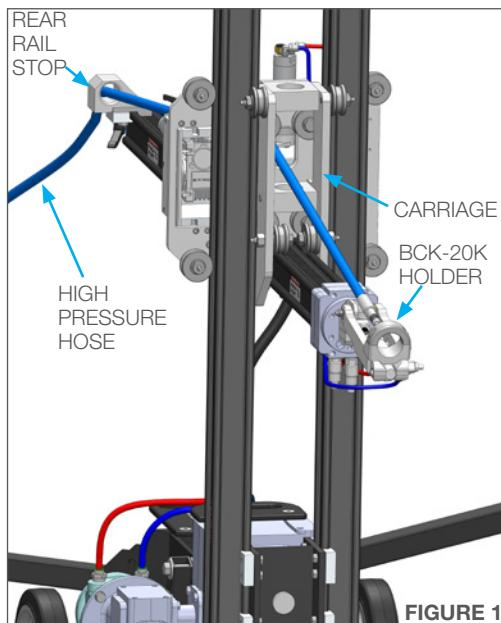

FIGURE 1
1. Feed the male connector on the High Pressure Hose through the Rear Rail Stop on the end of the Horizontal Rail, then through the Carriage towards the BCK-20K Holder. (**Figure 1**)